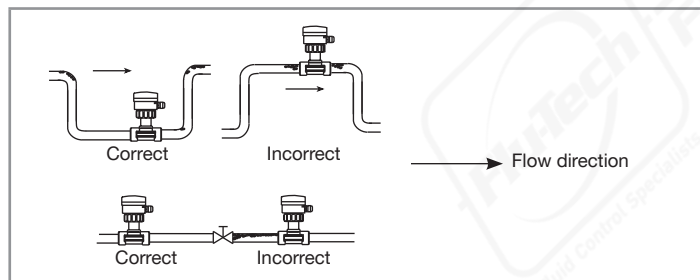

Fig. 10: Air bubbles within the pipe
- Prevent the formation of air bubbles in the pipe in the section around the device (see Fig. 10).